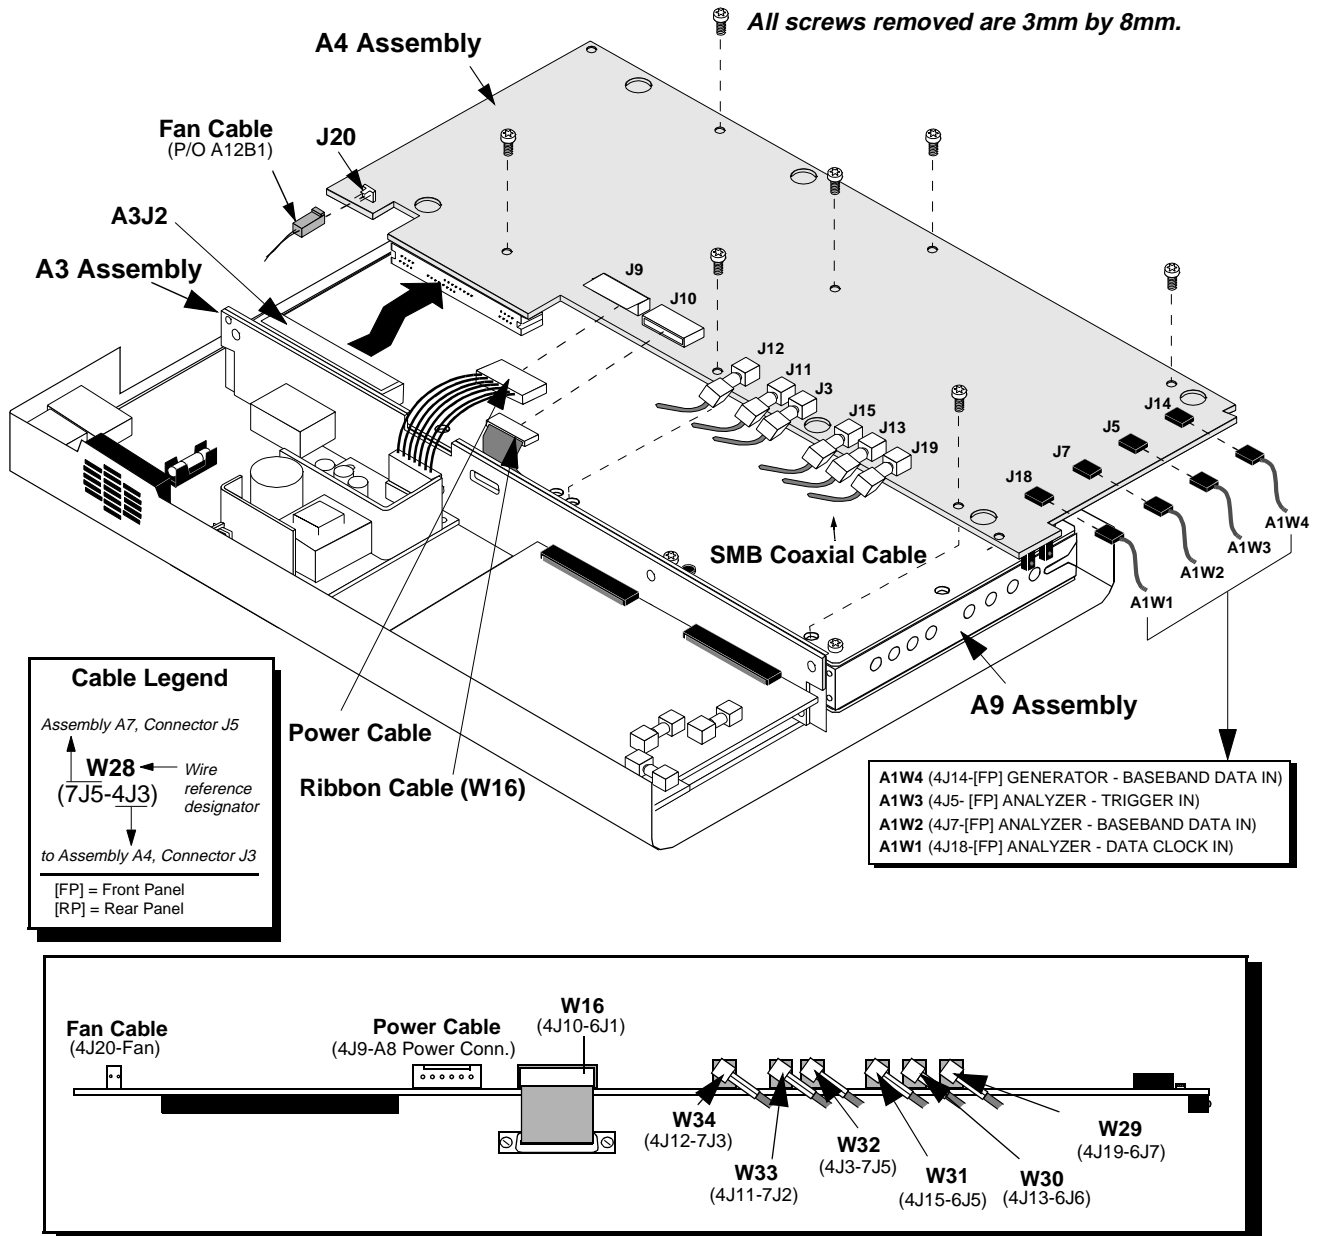

Figure 25 Removing the A4 Assembly
4. Remove the seven screws that secure the A4 assembly to the A9 assembly, see figure 25 on page 71.
5. Disconnect the following connectors from the A4 assembly, see figure 25:
This completes the procedure for the removal of the A4 assembly. Use figure 25 to identify the location of the connectors and cables when reinstalling the A4 assembly.